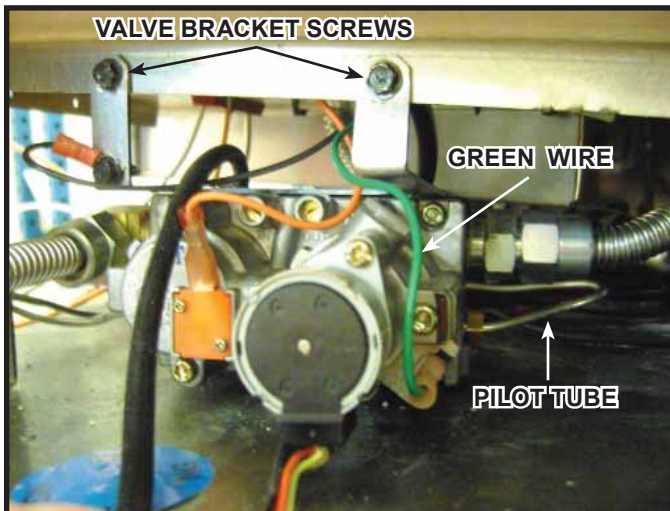
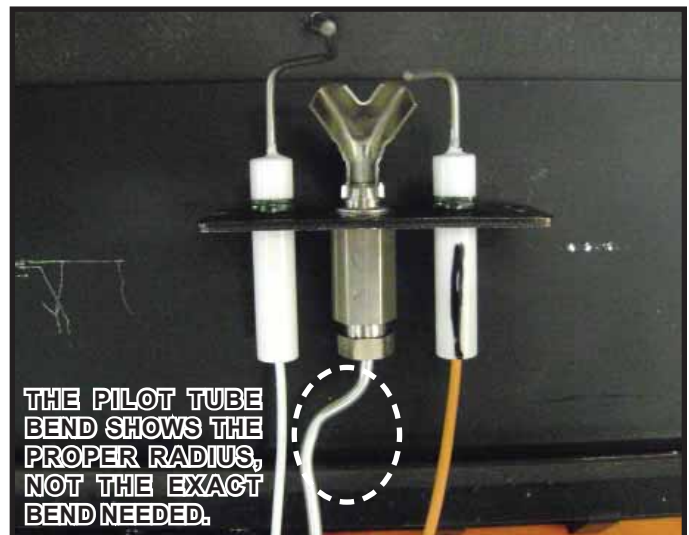

Figure 5. Gas Valve Access
Figure 7. Proper Pilot Tube Bend Radius (No Sharp Bends)
5. Unplug the green wire from valve. See Figure 5.
9. Remove two screws from the valve bracket to gain access to the pilot tube. See Figure 5.
10. Unscrew the pilot tube from the valve. See Figure 5.
15. Connect pilot tube to the valve assembly. See Figure 5. Ensure the pilot tube does not bend excessively causing a kink in the pilot tube. See Figure 7.
18. The pilot tube may need to be bent before installation. See Figure 7. The grommet may not be centered with the pilot tube.
22. Turn on fireplace with the green wire disconnected. See Figure 5.
30. Reattach the green wire. See Figure 5.